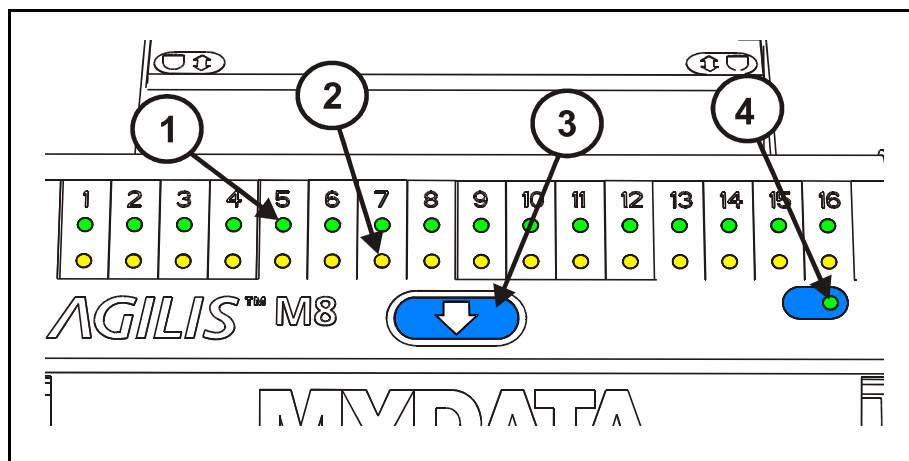

Figure 4-10. Information panel
3. Make sure the green LED in the bottom right corner (see Figure 4-10) and green LEDs for loaded feeder positions are on.
The Agilis magazines have an info panel with green LEDs (1) in Figure 4-10) and yellow LEDs (2) showing the status for each feeder. The panel also has a release button (3) from which you can order the machine not to pick components from the magazine. Finally there is a LED indicating the magazine status (4).